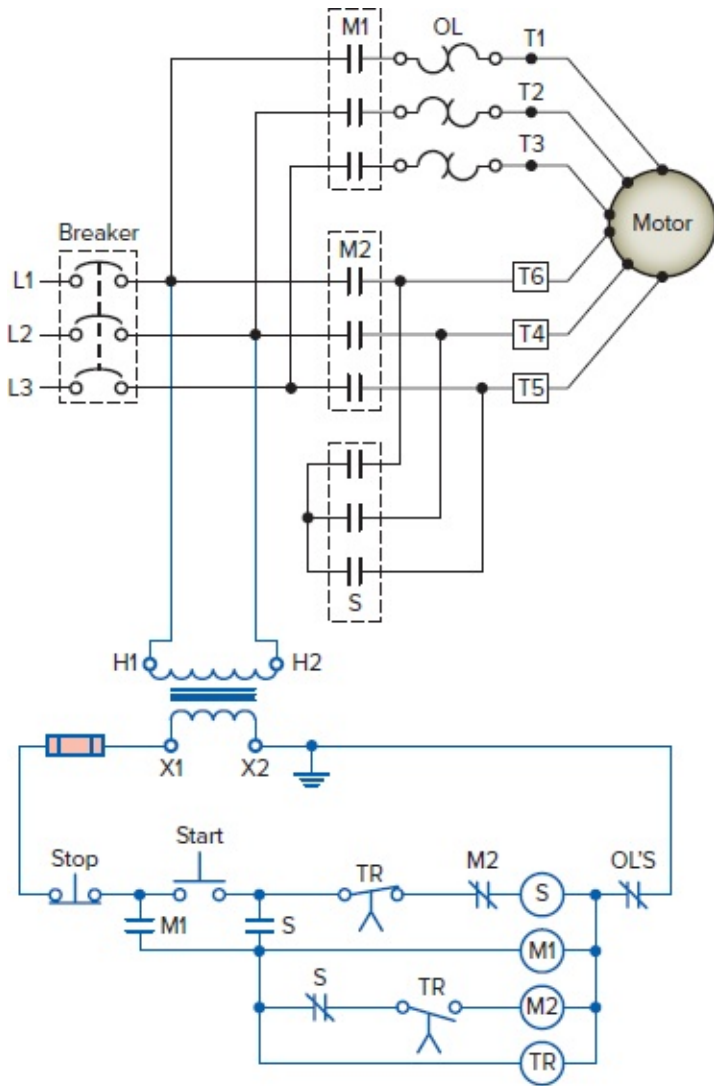

Figure 8-23 Wye-delta starter.
Figure 8-23 shows a typical wye-delta starting circuit. The transition from wye to delta is made using three contactors and a timer. The two contactors that are closed during run are often referred to as the main contactor (M1) and the delta contactor (M2). The third contactor (S) is the wye contactor and that carries wye current only while the motor is connected in wye. Operation of the circuit can be summarized as follows: